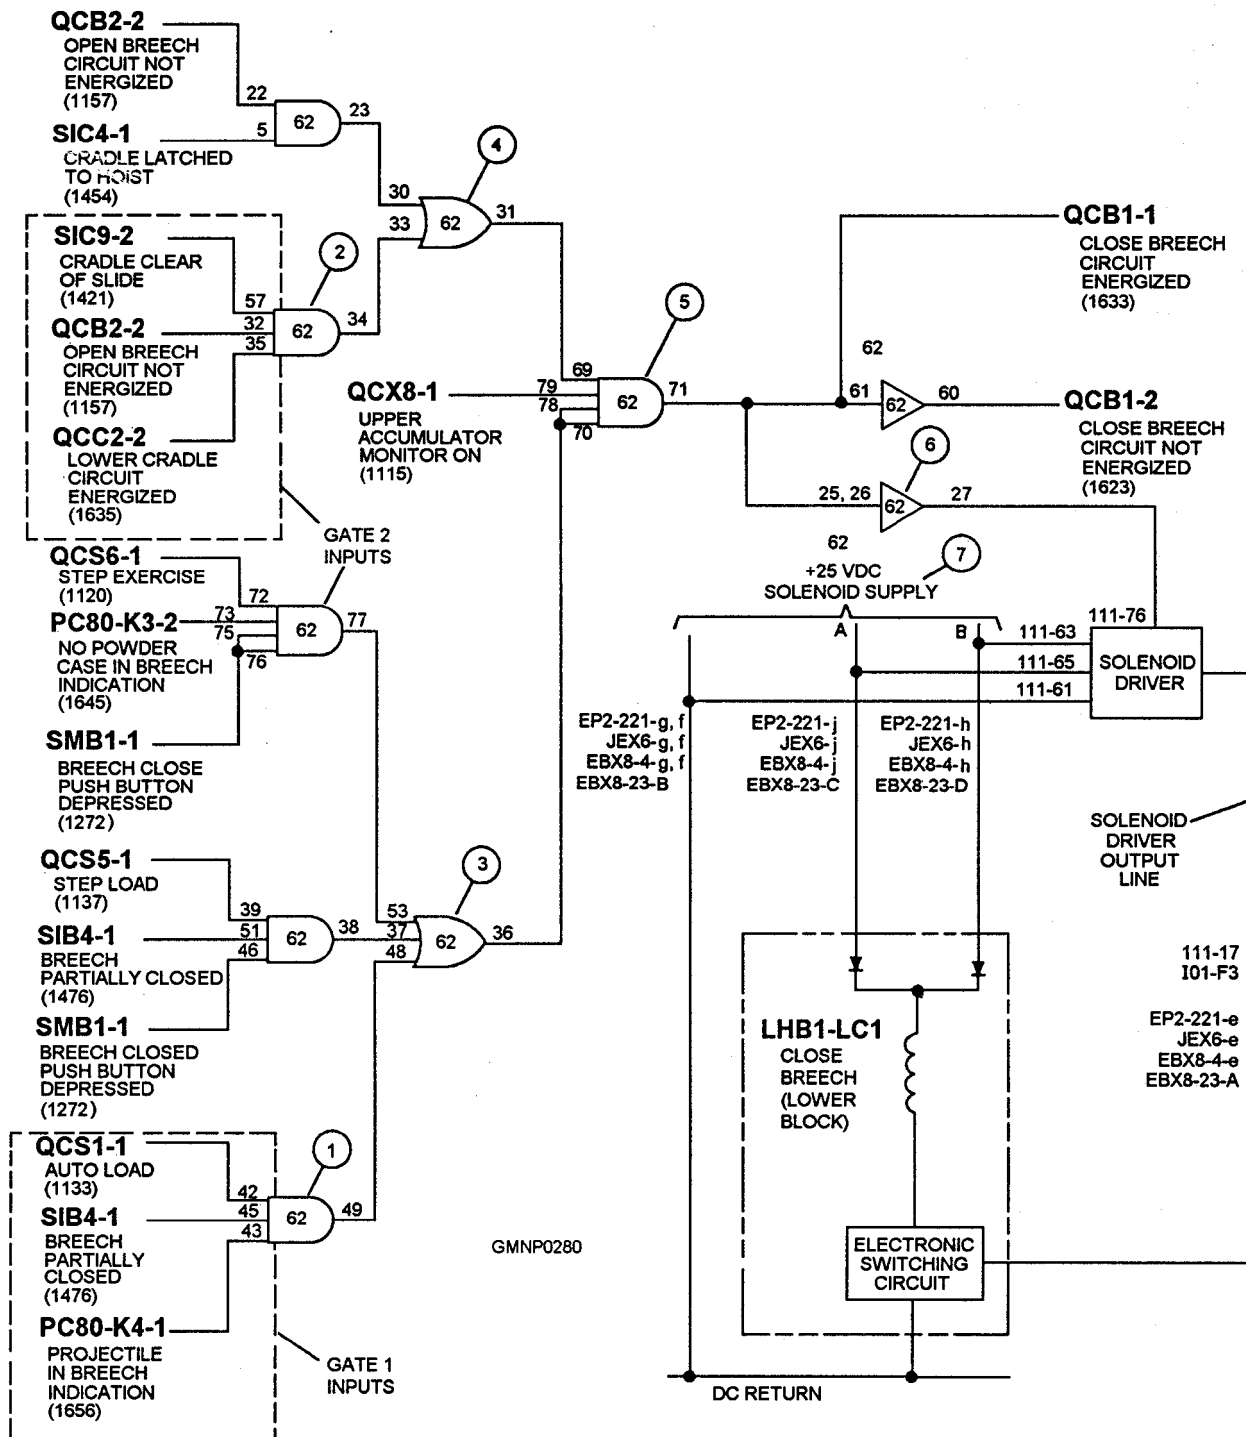
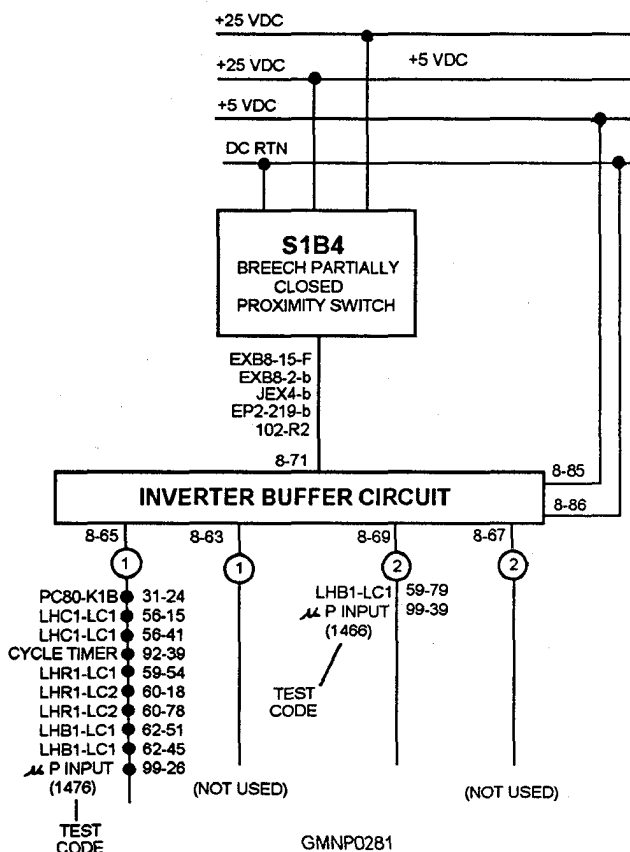
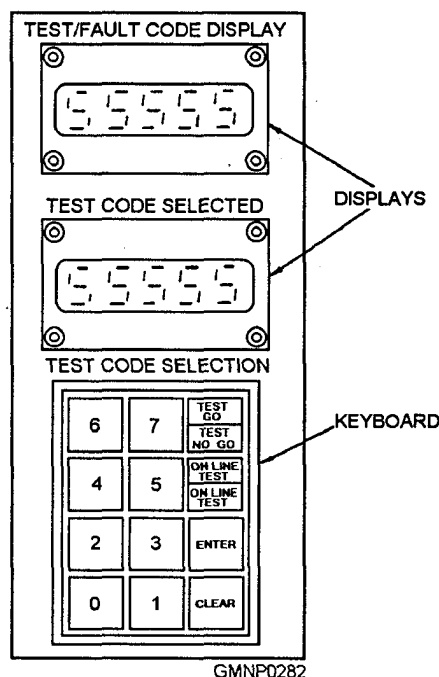

Figure 5-17.—Typical logic control circuit.
Figure 5-18.—Inverter buffer circuit for SIB4.
Figure 5-19.—Test/Fault code keyboard and displays.
Figure 5-17 shows a typical logic circuit that uses inverted and buffered switch outputs to trigger a solenoid driver. The solenoid driver, in turn, controls a
This circuit consists of AND gates, OR gates, and an inverter. The numbers within the gates identify the printed circuit board in the EP2 panel on which the circuit is located. The numbers on the input and output lines of the gates identify the terminal pin that connects to that point. The circled numbers in figure 5-17 are
Inputs to the logic gates are identified by both alphanumeric nomenclature and a brief description of what the input means. The input SIB4-1 (BREECH PARTIALLY CLOSED) to gate 1 comes from the number 1 output leg of the inverter buffer associated with SIB4 (fig. 5-18). When the breech is partially closed, the switch is activated and the high switch output through the inverter buffer produces a low logic input at input pin 45 of gate 1. Remember, gate 1 is an AND gate and requires all inputs to be LOW to produce a LOW output.
The inputs to gates 1 and 2 in figure 5-17 initiate the operation of breech closing solenoid LHB1-LC1 in the normal mode of operation, AUTO LOAD. The six inputs indicate that the gun-loading system has delivered a complete round into the breech of the gun, the LOWER CRADLE circuit is energized, and the cradle has moved clear of the slide. With these conditions met, gates 1 and 2 pass a LOW logic signal to gates 3 and 4, respectively. Since gates 3 and 4 are OR gates, they require only one LOW input to produce a LOW output. The two LOWS from gates 3 and 4 are applied, with another LOW from summary circuit
The Mk 45 Mod 1 gun system is equipped with a microprocessor that monitors the sequence of operation of the gun through equipment position switch inputs. Notice the last output destination on the 1 and 2 legs of the inverter buffer circuit shown in figure 5-18.  $\mu$ P INPUT indicates that switch output is supplied to the microprocessor. On the EP-2 panel there is a Test/Fault Code Keyboard and Display (fig. 5-19) that is used to interface with the microprocessor. To test the output of a switch or summary circuit, the operator needs only to type in the test number for that circuit or switch. The result of the test is displayed as a 0 or a 1 in the Test/Fault Code Display above the keyboard. A zero (0) indicates a LOW output and a one (1) indicates a HIGH output. In this case, the test number for SIB4 is 1476 for leg 1 and 1466 for leg 2 (fig. 5-19). The test code number is
displayed in brackets along with the circuit or switch input/output identification (note the same number [1476] in the SIB4-1 input to gate 1 in fig. 5-17).
Logic circuit failures are isolated much the same as they are in the older types of control circuits. Refer to figure 5-17 as we walk through a typical troubleshooting routine. You have verified equipment position and determined that the equipment stopped at the CLOSE BREECH step in the loading sequence. The first problem is to isolate the fault to one side of the circuit. This is done by entering the test code for QCB1-1 [1633]. A LOW would indicate the problem is in the right side of the circuit, in gate 6—the solenoid driver or the solenoid. Let us assume we read a HIGH here, the problem is in the left side of the circuit. Since there are no test codes for gates 3,4, and 5, we skip over to the switch inputs for gates 1 and 2. If all the inputs to gates 1 and 2 are LOW, the problem is on board 62. A HIGH at any of these test points would lead you back through the inverter buffer circuit for that input. In this case we will assume a HIGH input is detected at SIB4-1. Refer to figure 5-18 as we examine the inverter buffer for SIB4. Since we have read a HIGH at leg 1, test code [1476], we can assume the inverter buffer is functioning if we read a LOW on leg 2, test code [1466]. These tests lead us back to the proximity switch. After verifying that the switch is in proximity, we test the switch by checking switch input at point 8-71. This test is accomplished using a circuit card extender. The circuit card extender allows you to take input and output readings on a particular circuit card while the system is energized. The circuit card extender provides an extended circuit card jack with test points for each pin connection. A LOW reading at pin 8-71 would indicate a bad proximity switch.